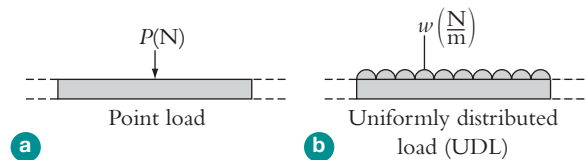

Figure 5.28 Types of beam loading
A beam can be subject to point loads, UDLs or a combination of both. Point loads are represented by downwards arrows, indicated by the load P (N) in Figure 5.28(a) whereas the UDL is denoted by the load w indicated in Figure 5.28(b).